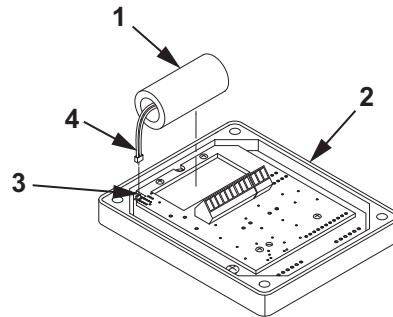

Figure 3. Tank Volume Meter Monitor Battery.
6. Disconnect battery cable connector (Figure 3, Item 4) from circuit board (Figure 3, Item 3).
7. Remove battery (Figure 3, Item 1) from volume meter (Figure 3, Item 2).
8. Dispose of battery (Figure 3, Item 1) per local procedures.
1. Install new battery (Figure 3, Item 1) in volume meter (Figure 3, Item 2).
2. Connect battery cable connector (Figure 3, Item 4) to circuit board (Figure 3, Item 3).